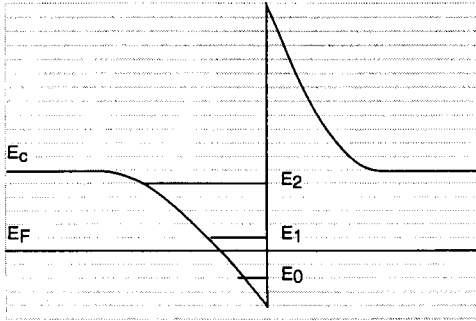

Figure 5.1: Conduction band diagram of HEMT.
- a) Given the conduction band diagram of a GaAs HEMT from gate to bulk (see figure 5.1), draw the density of states in the quantum well for this structure. [2]